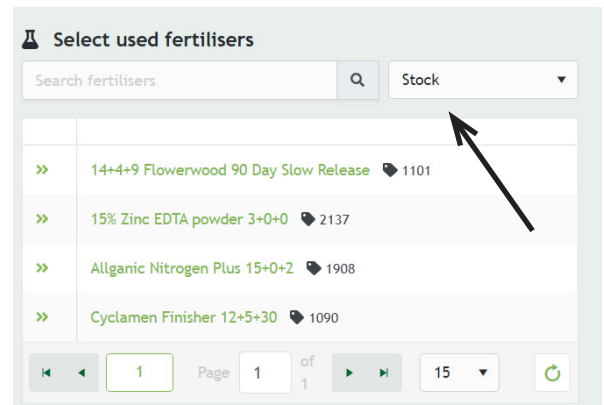

Figure 6
3. Enter the data. If you keep stock records, select 'Stock' under 'Select fertilisers used'. You will then see a list of fertilisers you have in stock. If you are not keeping stock records or if you have not yet created the product concerned, select 'Code list'. You will then see a complete list of products from which you can make your selection (see figure 6).
5. Choose the relevant product by searching for a word or code. Click on the double chevron to select a product (see figure 6). You can select more than one product at a time. If you can't see your product on the list, you can request a code under 'Manage' or via the site dashboard.